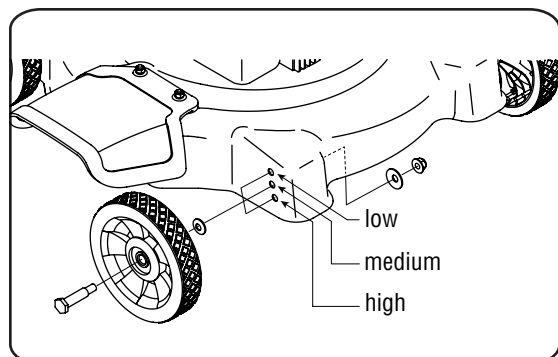

Figure 3-10
1. Remove the carriage bolts and related hardware from the wheels. See Figure 3-10.